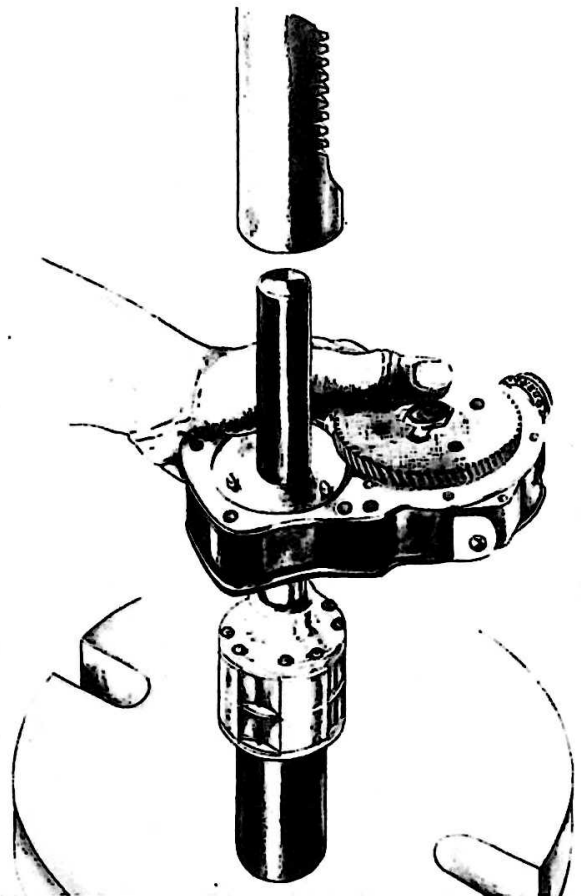
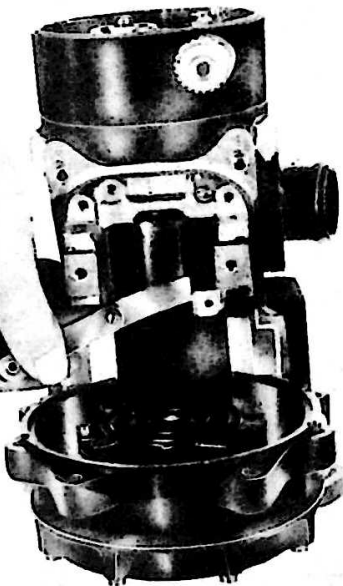

Figure 12 - Pressing Front End Plate onto the Rotating Magnet.
Figure 13 - Checking Clearance Between the Rotating Magnet and the Pole Shoes.
(3) Recharge the magnet with either 11-1301 magnet charger (110 volt D.C.), or 11-1302 magnet charger (36 volt D.C.).
(4) Place the breaker end of the rotating magnet in the No. 11-1203 sleeve. Place the insulating sleeve over the drive end of the magnet shaft with the flattened extension of the insulating sleeve up. Place the front end plate over the drive shaft end of the rotating magnet, and after making sure that the extension of the insulating sleeve is centered toward the distributor gear axle in the front end plate, press the front end plate into position, using the No. 11-1242 pressing tool in conjunction with an arbor press. (See figure 12.)
(5) Apply a light coating of S.A.E. 60 oil or its equivalent on the pole pieces of the rotating magnet. Make sure that the magnet is clean and free from chips or foreign particles. Then engage the front end plate and magnet assembly with the magneto housing. This is done by inserting the magnet as far as possible into the housing. Make sure that the insulating sleeve enters straight into the housing. Place the breaker end of the housing on the No. 11-1408 support and center the assembly in an arbor press. Press shaft and front end plate into position using the No. 11-1242 pressing tool over the drive gear end of the shaft.
(6) Make sure that the rotating magnet turns freely and does not bind at any place. Check the clearance between each pole piece and the pole shoes in the housing. The clearance must not be less than .0015 inch for any pole piece of the magnet. (See figure 13.)